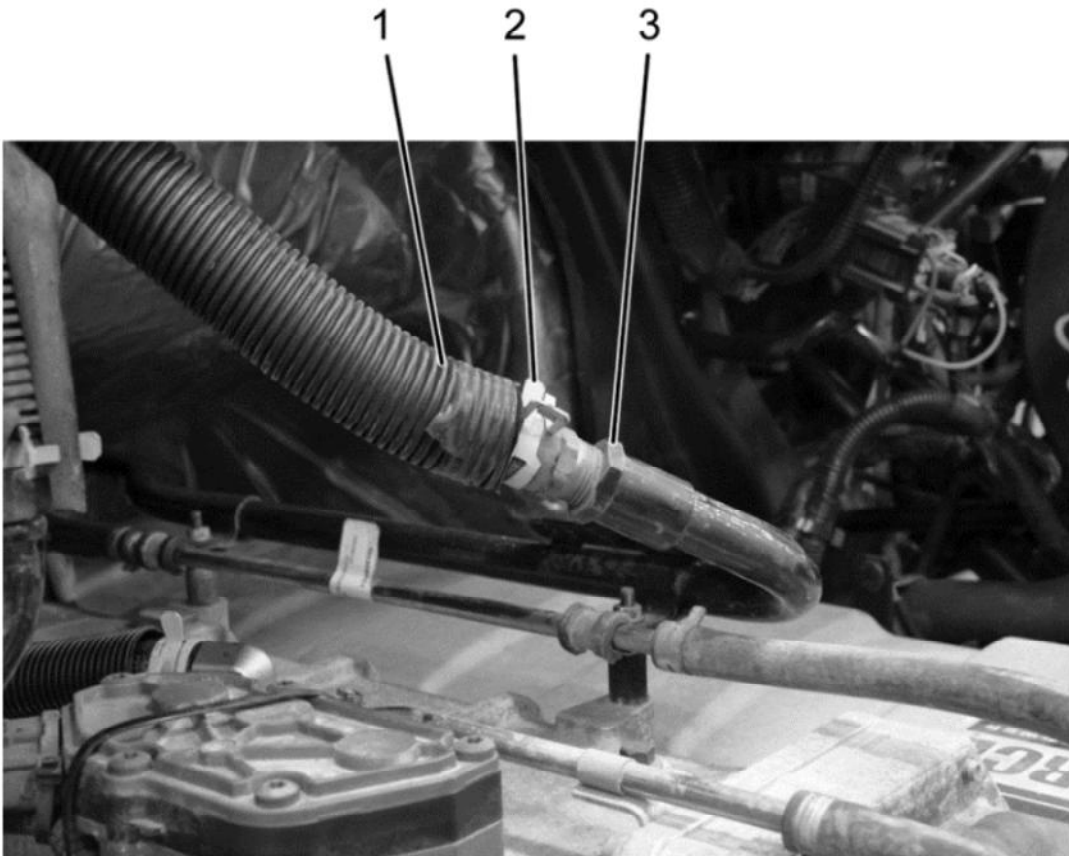
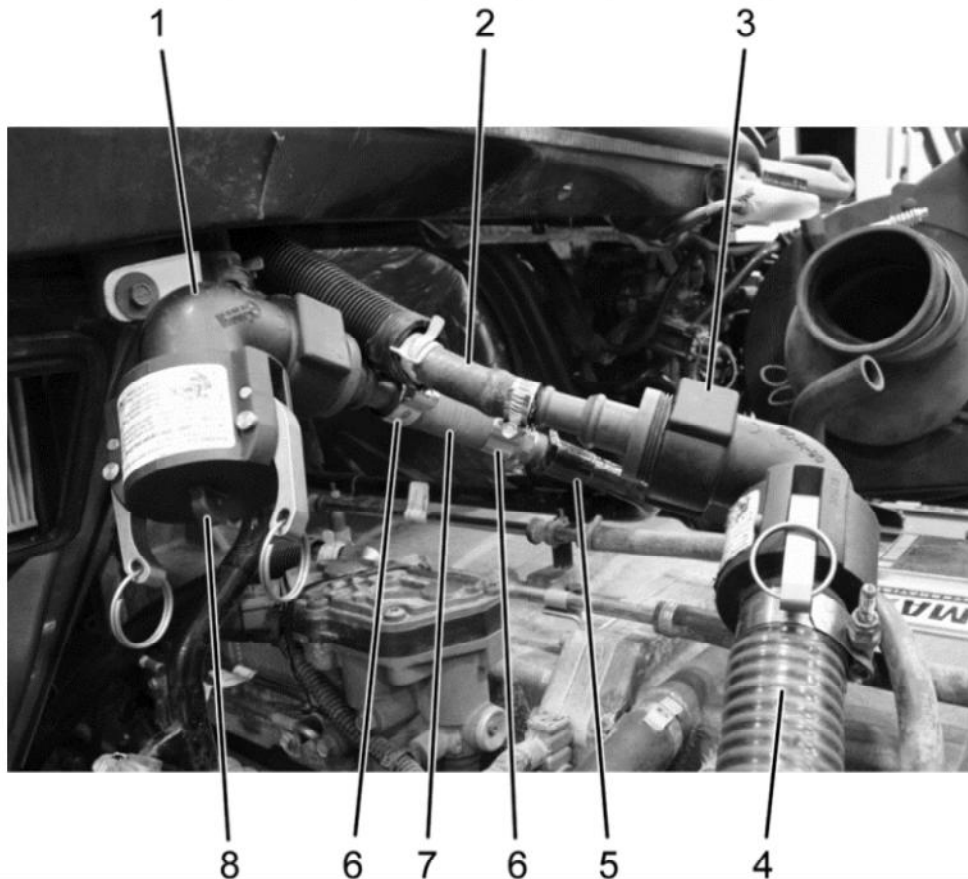

Figure 13: Front Heater Core
Figure 14: Front Heater Core Connections
1. Disconnect Heater Core Input Hose (**Figure 13**, Item 1) and install two Small Coolant Flush Adapters (**Figure 14**, Items 2 and 3)
2. Connect Cleaning Management System (12-353-01A) hose to small coolant flush adapter (**Figure 14**, Item 4) and cap (**Figure 14**, Item 8)
4. Remove CMS return hose and cap (**Figure 14**, Item 4 and 8) and install cap onto adapter (**Figure 14**, Item 3) and install hose into adapter (**Figure 14**, Item 1) and flush for 15 minutes
6. Install rubber cap from adapter kit onto input heater core tube (**Figure 13**, Item 3) and install plug into rubber input hose (**Figure 13**, Item 1) securing with clamps
3. Install small coolant flush adapters into rear heater core return hose and rubber cap over rear heater core return tube (**Figure 14**, Items 1 and 3) and tighten hose clamps
4. Install cap plug onto small coolant flush adapter (**Figure 14**, Item 8) and CMS hose to deaeration adapter (**Figure 8**, Item 3) and run into drain or bucket
5. Connect CMS hose to small coolant flush adapter (**Figure 14**, Item 4)
11. Disconnect CMS hose from small coolant flush adapter (**Figure 14**, Item 4)
12. Remove and install cap (**Figure 14**, Item 8) onto small coolant flush adapter on rear heater core return hose (**Figure 14**, Item 3)
13. Install CMS hose (**Figure 14**, Item 4) onto small coolant flush adapter (**Figure 14**, Item 1)